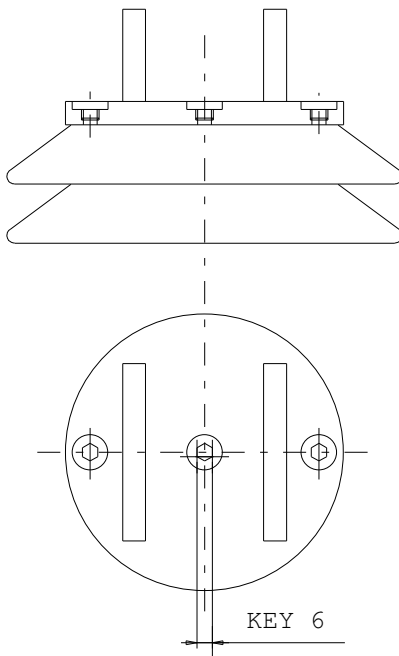

Fig. 8
- Open the hole with plug placed in the middle of the head of the bushing; to open (and close) this plug, use a hexagonal wrench of 6 mm (fig. 8);
- Unscrew the two plugs placed symmetrically on the head (fig. 8);